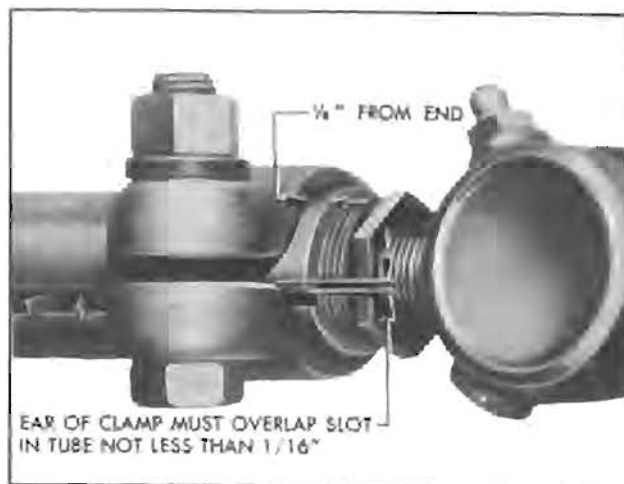

Figure 6-35—Correct Position of Tie Rod Clamp
Where weights are assembled to only one flange of wheel rim they should always be assembled to inside flange. When more than 3 ounces of weight is used, divide the weight equally between inside and outside flanges in order to maintain dynamic balance. See figure 6-35, view D.
6. After correct toe-in is secured tighten clamp bolts securely. On *Series 70*, make sure that tie rod clamps are within  $\frac{1}{8}$ " of end of rods and that ear of clamp overlaps slot in tube not less than  $\frac{1}{16}$ ". See figures 6-35.